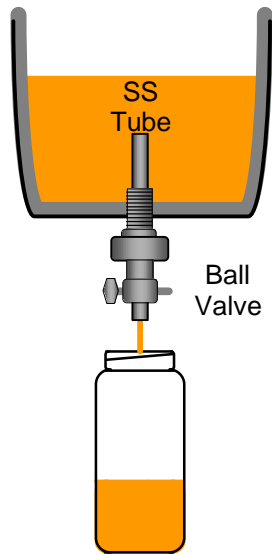

Figure 2
- a. Install a compression type fitting at the drain port with a piece of metal tubing passing through the compression fitting midway into the sump and the outside end of the tube fitted with a ball valve with PTFE seals. See Figure 2.